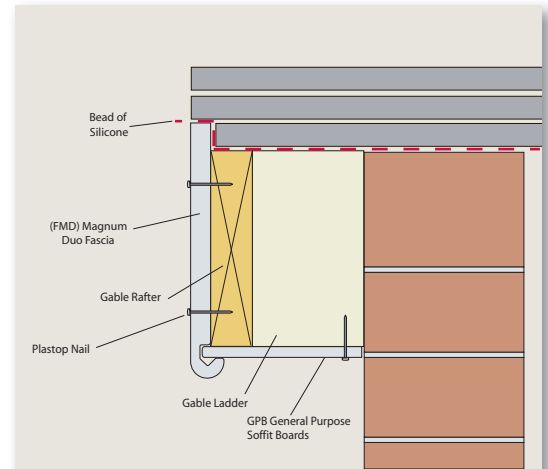

Fig. 21 Magnum Duo fascia with gable ladder and general purpose soffit.
**Figure 21** shows an oversailing verge, with a gable ladder providing the necessary fixing. GPB General Purpose Board soffit is used and is supported at the outer edge by a Magnum board and at the inner edge by treated battens fixed to the gable wall between the gable ladder noggins. Battens should be fixed to the wall between the noggins if the distance between the gable ladder noggins is more than 600mm for white profiles or 400mm for coloured/woodgrain profiles or 300mm for black profiles.